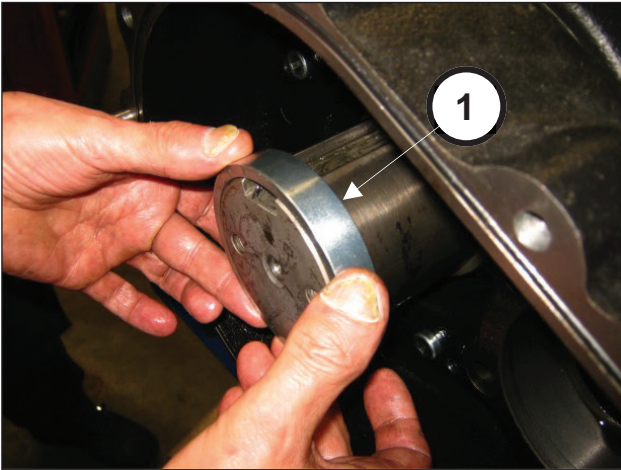
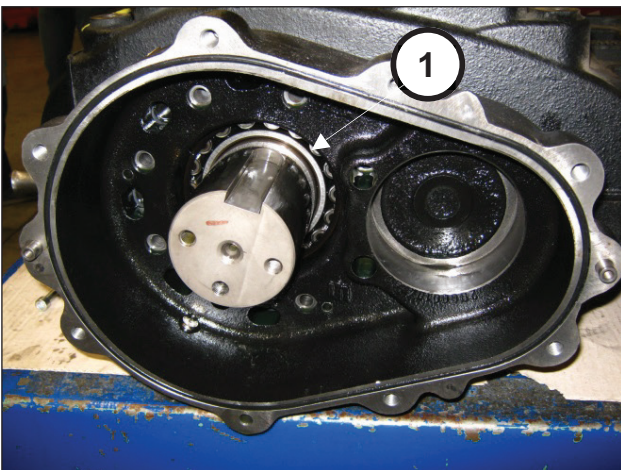

Fig. 72
Fig. 73
Calibrate the screws with a torque wrench as indicated in chapter 3 SCREW TIGHTENING CALIBRATION. Insert the ring gear support ring in the crankshaft shank (pos. ①, Fig. 72) to end stroke (pos. ①, Fig. 73).